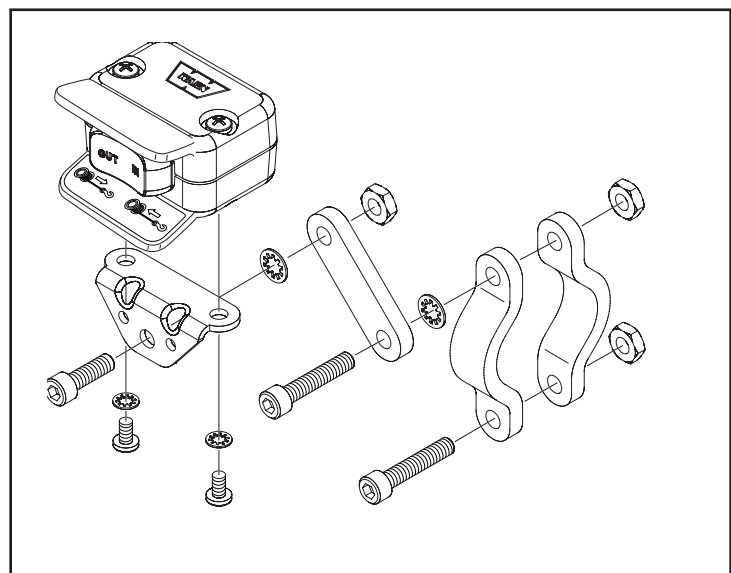

Figure 5 Switch Unassembled
2. Find a place on the handlebars where the switch will be mounted. Wrap one or two layers of electrical tape around this location to improve clamping. Place a clamp on either side of the handlebar and assemble the switch and its mounting bracket, strap, and clamps as shown in Figure 5.